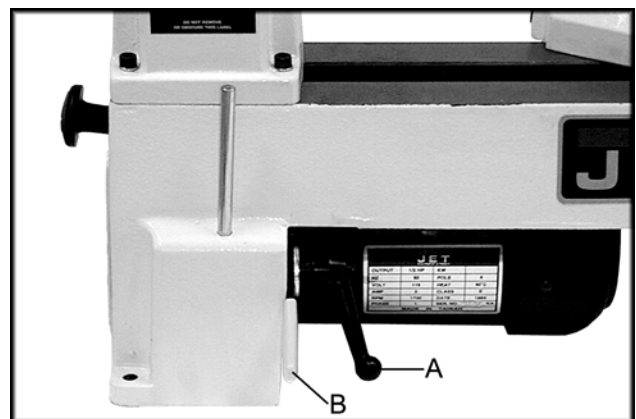

Fig. 8
3. Loosen the motor plate lock handle (A, Fig. 8). Lift up on the motor plate handle (B, Fig. 8) to take tension off the belt.
5. Tension the belt by pushing down on the motor plate handle (B, Fig. 8) and lock in place.
2. Loosen the motor plate lock handle (A, Fig. 8). Lift up on the motor plate handle (B, Fig. 8) to take tension off the belt.